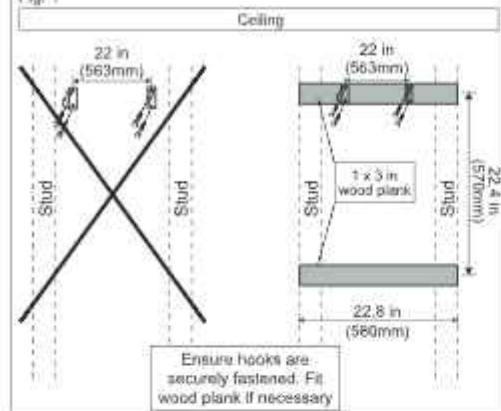

Fig. 2
3. To install the hanging hook to wood plank, start at Fig. 2